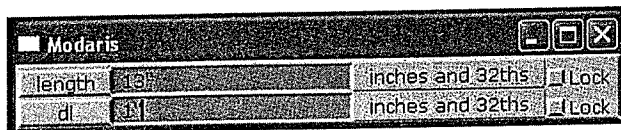
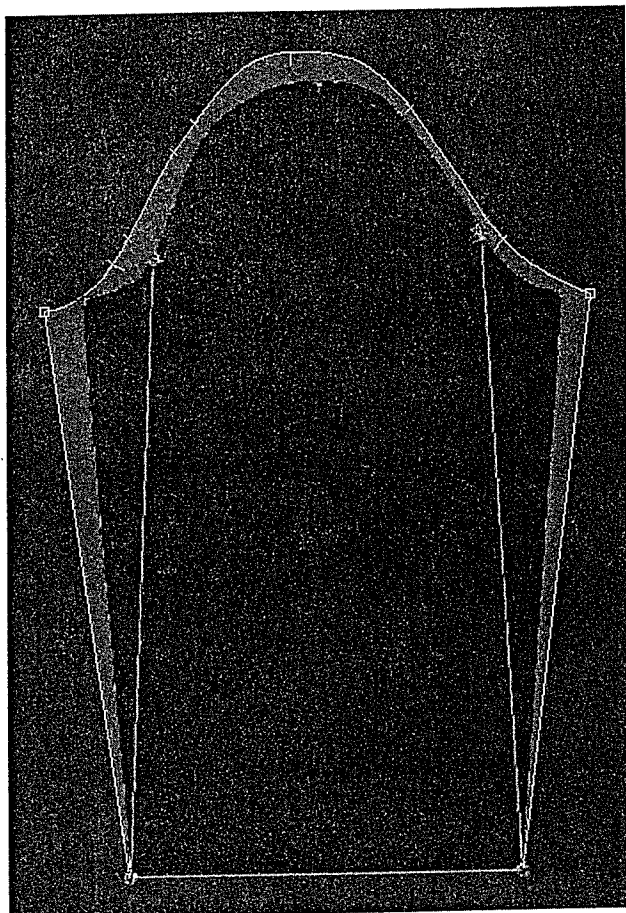

Figure 4.38 Lengthen text box.
Figure 4.39 Long sleeve with cap fullness for gathers.
7. If the sleeve cap height is not raised enough, select *F3>Line modification>Lengthen*. Click the points previously added to control the placement of the gathers. After the second click, the text box opens. In the *dl* line, type "1" or the desired amount the cap is to be raised (Figure 4.38). The old length of the sleeve plus the gather length can be added together and typed in the *Length* line of the text box. Only lengthen above the sleeve notches. Hint: If *Lengthen* is only used to increase the length of the sleeve cap, it will raise the cap but not add fullness to the sleeve circumference. Sleeve circumference fullness is also desired when the sleeve cap is raised (Figure 4.39).